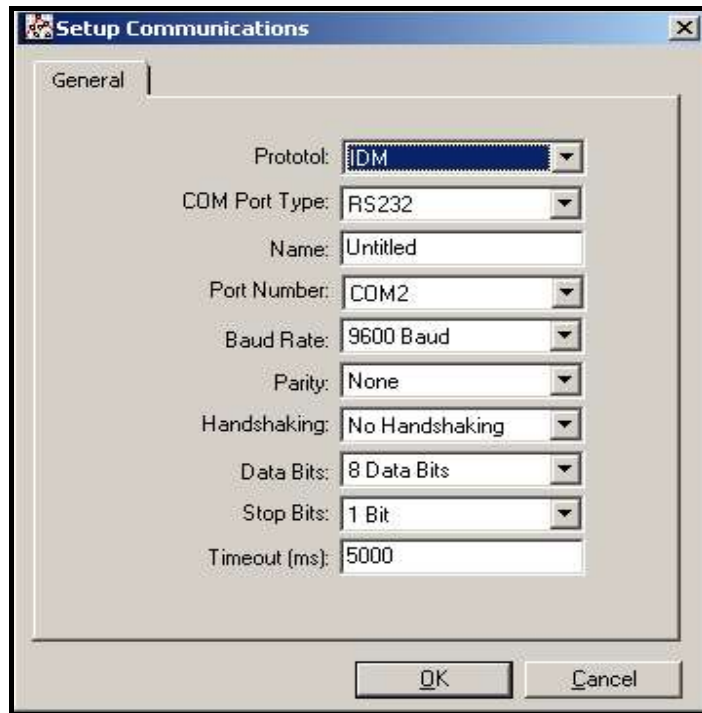

Figure C-2: Setup Communications Screen
- Click on the "Communications Port" option to select it. The *Setup Communications* screen appears similar to Figure C-2 below.